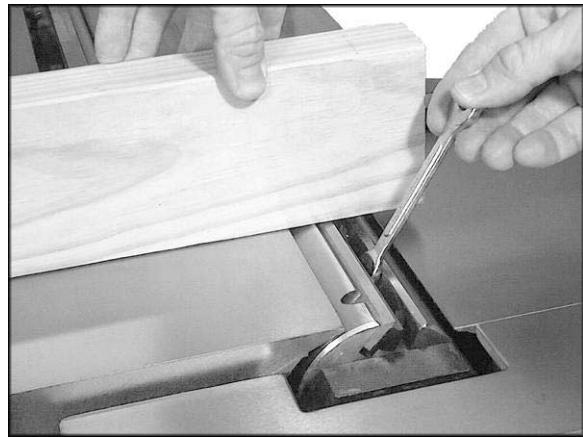

Figure 32 (straight cutterhead)
15. Use the edge of a board to push the knife back down so that it is flush against the jack screws. See Figure 32. Tighten the gib screws only enough to keep the knife in position in the cutterhead. Do not fully tighten.